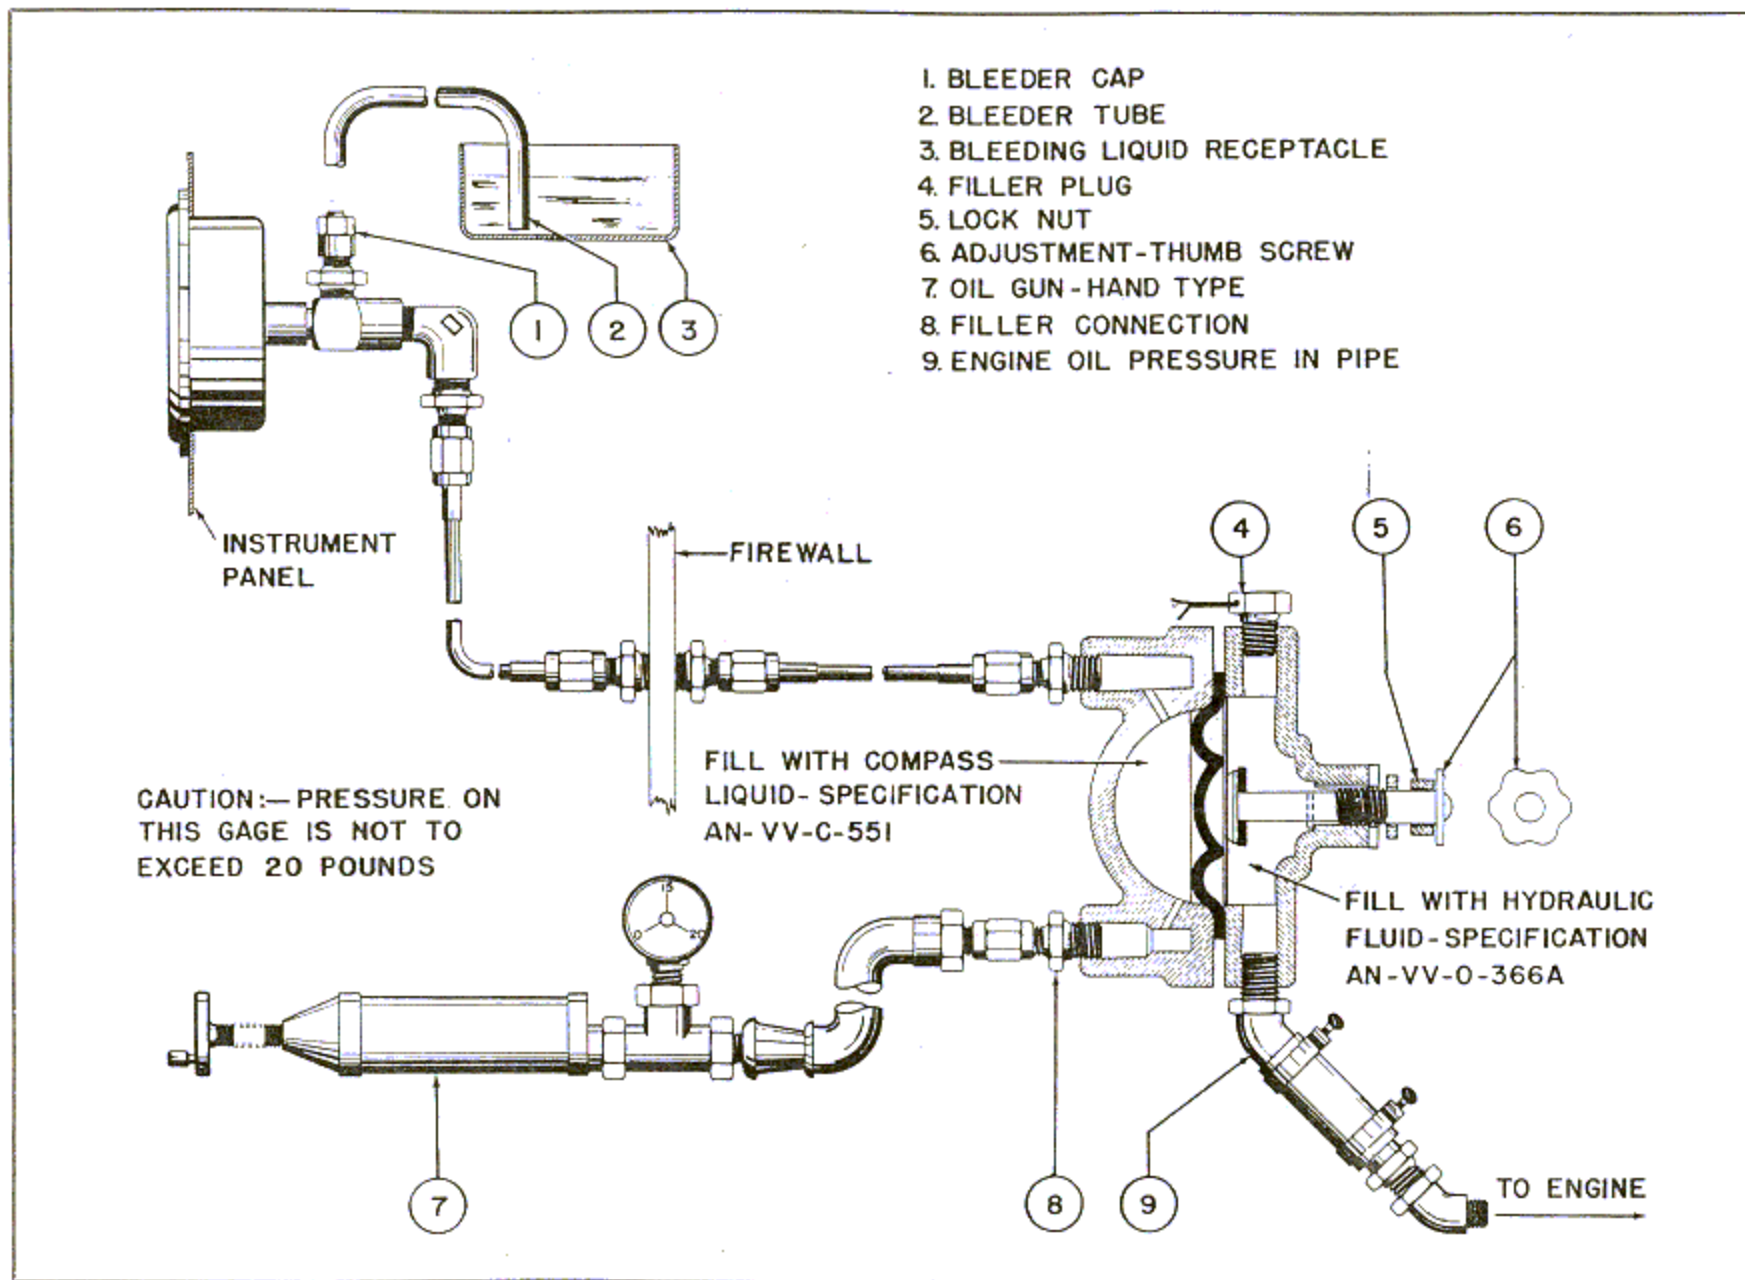

Figure 195—Servicing Oil Pressure Transmitter
1. To fill the transmitter chamber with compass liquid, unscrew the lock nut (5) from the threaded portion of the shaft. Then push the shaft in to the full limit towards the center of the transmitter assembly. Turn the thumbwheel (6) clockwise until the backing plate at the end of the shaft is set firmly against the diaphragm as shown in figure 195.
2. To gain access to the bleeder cap (C) of the oil pressure gage line, remove the two retaining screws in the top of the instrument panel and tip the panel assembly aft to obtain sufficient hand space.
3. Remove the bleeder cap (1) and install a threaded bleeder tube (2) in place of the cap just